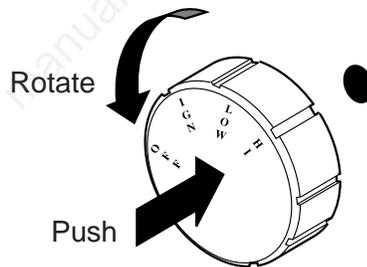

Figure 31 - HIGH Position
10. Push in control knob and turn to desired setting (LOW or HIGH). The control knob must be set at either the low or high position, and the control knob will pop out when positioned correctly. Do not set the control knob at a position between LOW and HIGH. Refer to *Figures 31 and 32*.